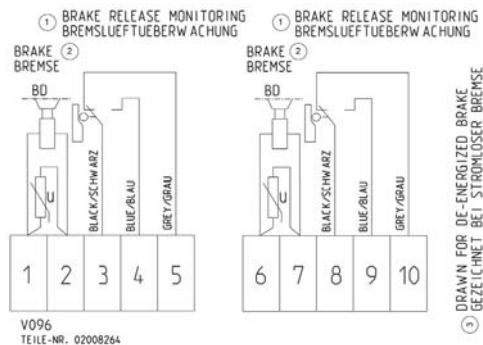
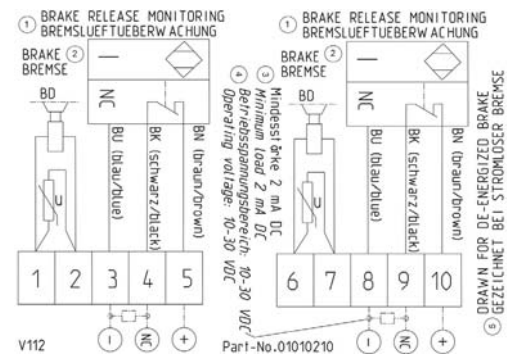

Figure 8-22
Figure 8-23
39. Lead the connection cables (6) of the magnet coils and the release monitoring into the terminal box.
40. Connect the solenoids, release monitoring and varistors (5) as shown in the wiring diagram (see Figure 8-22 and Figure 8-23) inside the cover of the junction box (1).
41. Fit strain reliefs (4).